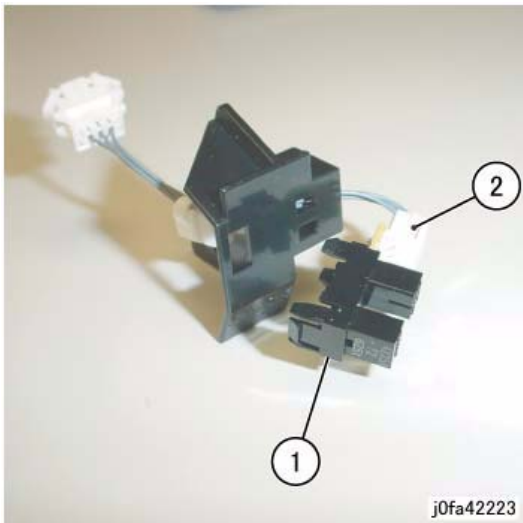

Figure 3 Removing the Set Clamp Home Sensor
6. Remove the Set Clamp Home Sensor (Figure 3):